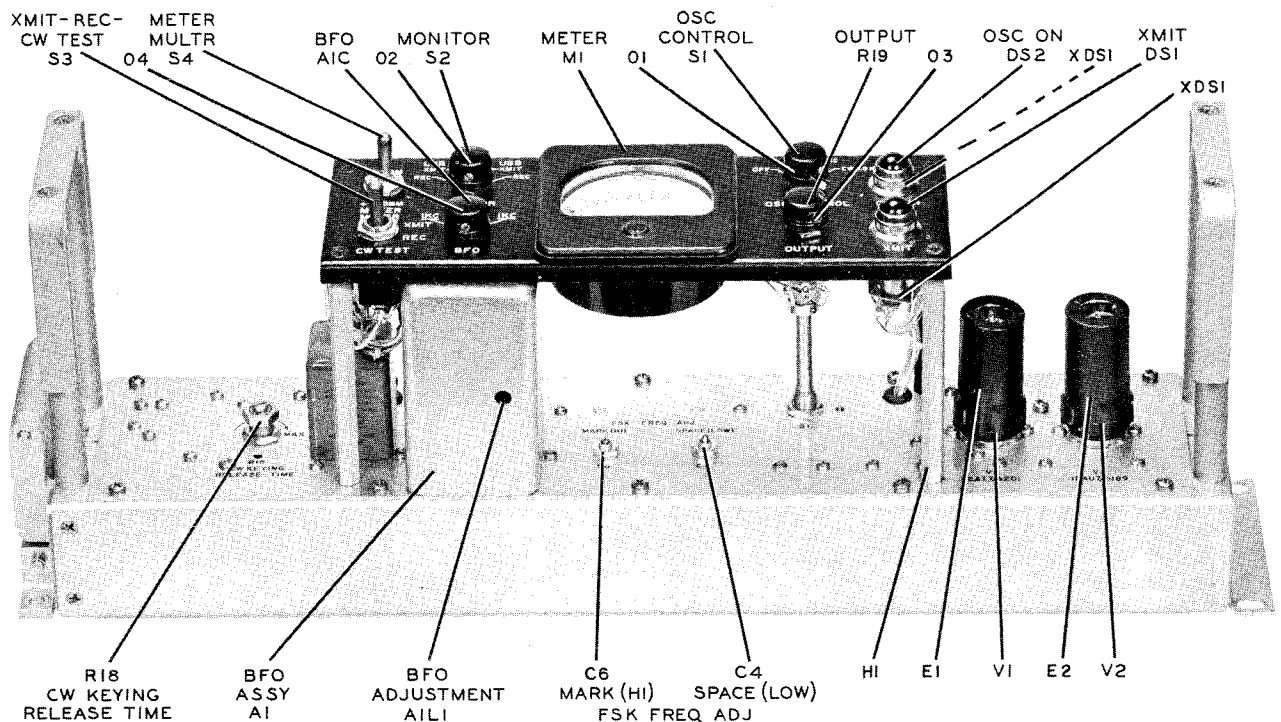

Figure 5-11. Converter-Monitor CV-730/URC, Front View with Cover Removed
(a) CW KEYING RELEASE TIME ADJUSTMENT. - The CW and FSK unit is shipped with the CW keying release time set for maximum. This delay time may be reduced by adjusting the R18 CW KEYING RELEASE TIME adjustment counterclockwise. This adjustment is located under the dust cover, figure 5-11. The CW keying release time should be set so the transmitter remains keyed to transmit during normal CW key operation. This can be checked by operating the CW key at the normal rate and checking to see that the XMIT light on the CW and FSK unit remains lighted.
3. Set OSC CONTROL to FSK. Set XMIT T-REC-CW TEST switch to REC. Set SIDEBAND SELECTOR switch on sideband generator unit to USB. Adjust test equipment controls and the r-f gain control on the sideband generator for a Lissajous figure on the oscilloscope. Adjust A1L1 on bfo subassembly, figure 5-11, for a 1-to-1 Lissajous figure on the oscilloscope.
(5) AMPLIFIER-CONTROL AM-2062/URC AND AM-2062A/URC. - The equipment necessary to perform alignment and adjustment of the Amplifier-Control AM-2062/URC and AM-2062A/URC (audio and control unit) consists of the audio oscillator and Electronic Voltmeter AN/USM-143.